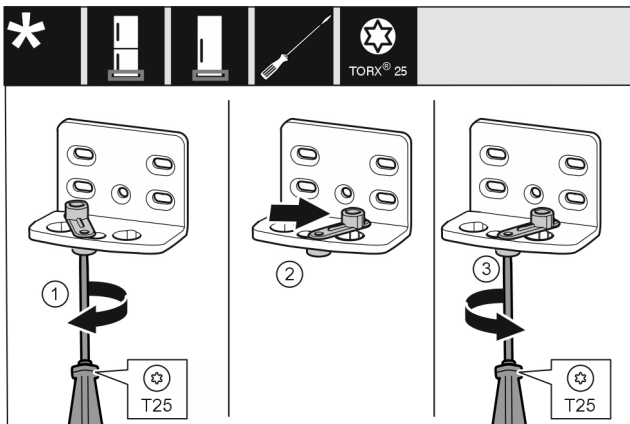

Fig. 11
- ▶ Loosen the screw using a T25 screwdriver. *Fig. 11 (1)*
- ▶ Lift the door closing aid and turn it 90° to the right in the hole. *Fig. 11 (2)*
- ▶ Tighten the screw using a T25 screwdriver. *Fig. 11 (3)*